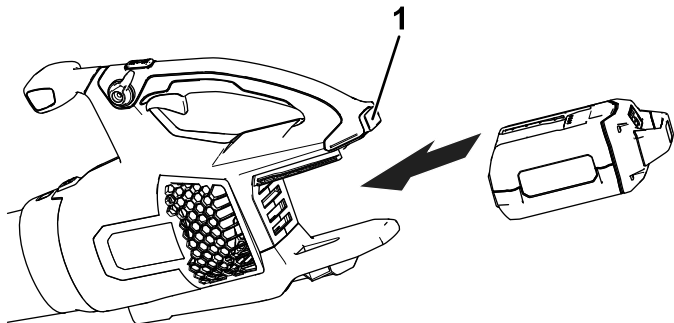

Figure 7
2. Align the cavity on the battery pack with the tongue in the handle housing (Figure 7).
3. Grasp the handle, and push the battery pack into the handle until the latch locks into place (Figure 7).